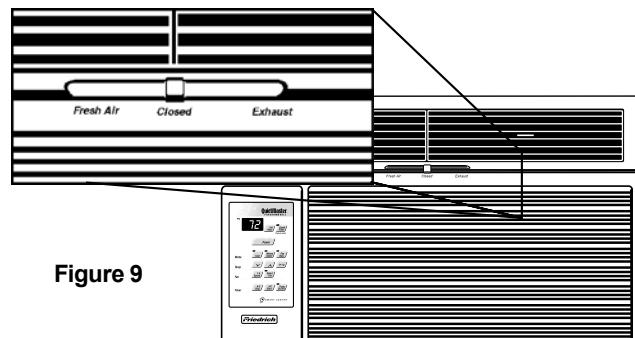

Figure 9
- ② **COOL** - Press the **Cool** button to automatically switch the operating mode to COOL.
- ③ **FAN ONLY** - Press the **Fan Only** button if you want to run the fan only. You may want to use this feature in conjunction with the **Fresh Air/Exhaust** if you want to bring outside air into the room, or exhaust stale air. (The FRESH AIR / EXHAUST feature is located on the front of the air conditioner near the top. See Figure 9 on page 7.)
- ④ **MoneySaver®** - Press the **MoneySaver®** button to activate the MoneySaver® feature. This cycles the fan with the compressor so that the fan does not run all the time.
The **Fan Only** setting can also be used with the **Exhaust** air setting to remove stale air or smoke from the room; or it can be used with the **Fresh Air** setting to bring outside air into the room. This is especially useful in the spring and fall when cooling may not be necessary. The **Fresh Air** and **Exhaust** controls are in the upper air discharge area. The center position of this control is the normal, or closed position, which recirculates air for maximum performance in the cooling mode (See Figure 9).
The **Fresh Air** and **Exhaust** controls are in the upper air discharge area (see Figure 9, page 7). The center position of this control is the normal, or closed position, which recirculates air for maximum performance in the cooling mode.
Your air conditioner has the ability to bring fresh air into the room or exhaust stale air out of the room. The control lever is found on the upper part of the unit (See Figure 9).